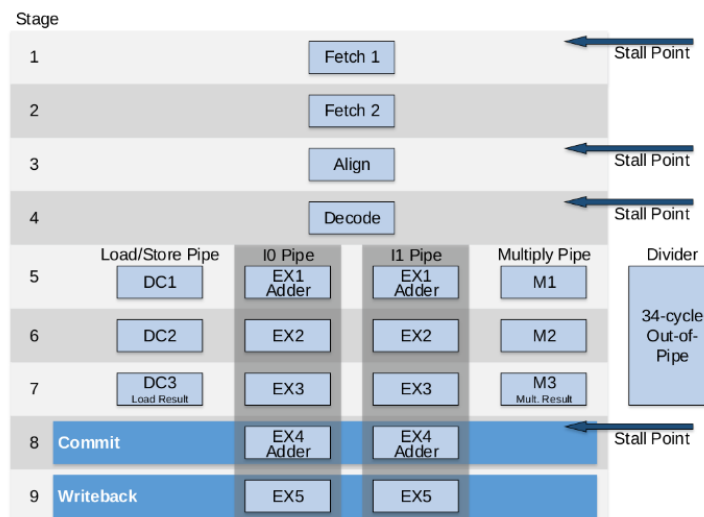

Figure 18. SweRV EH1 core microarchitecture
The **SweRV EH1 Core** is a machine-mode (M-mode) only, 32-bit CPU core which supports RISC-V's integer (I), compressed instruction (C), and integer multiplication and division (M) extensions. The Programmer's Reference Manual (https://github.com/chipsalliance/Cores-SweRV/blob/master/docs/RISC-V_SweRV_EH1_PRM.pdf) describes in detail all aspects of the core, from its structure to timing information and memory maps. SweRV EH1 is a superscalar core, with a dual-issue 9-stage pipeline (see Figure 18) that supports four arithmetic logic units (ALUs), labelled EX1 to EX4 in two pipelines, I0 and I1. Both ways of the pipeline support ALU operations. One way of the pipeline supports loads/stores and the other way has a 3-cycle latency multiplier. The processor also has one out-of-pipeline 34-cycle latency divider. Four stall points exist in the pipeline: 'Fetch 1', 'Align', 'Decode', and 'Commit'. The 'Fetch 1' stage includes a Gshare branch predictor. In the 'Align' stage, instructions are retrieved from three fetch buffers. In the 'Decode' stage, up to two instructions from four instruction buffers are decoded. In the 'Commit' stage, up to two instructions per cycle are committed. Finally, in the 'Writeback' stage, the architectural registers are updated.